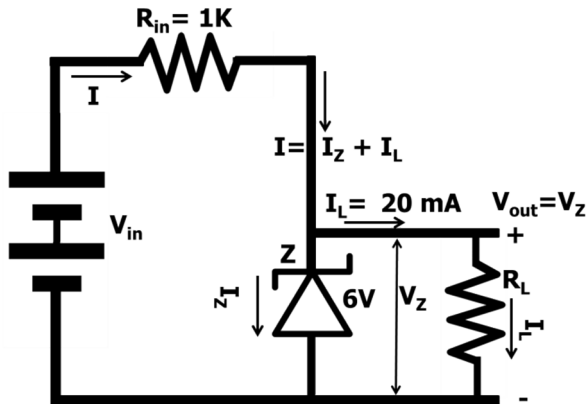

Fig 2.52
**Problem 2.26:** The zener in fig 2.52, is required to deliver a load current of 20 mA at a constant output voltage of 6 V. The minimum current of the zener is 5 mA.  $P_D$  max of zener is 240 mW. The input varies between 10 V to 12 V. What should be the value of the series limiting resistor?